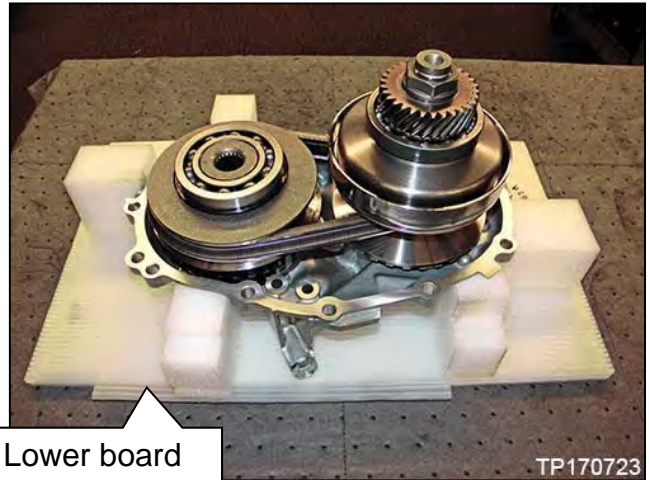

Figure 143
- The sub-assembly must be level and oriented as shown in Figure 143 for proper seating of the CVT case later in this procedure.